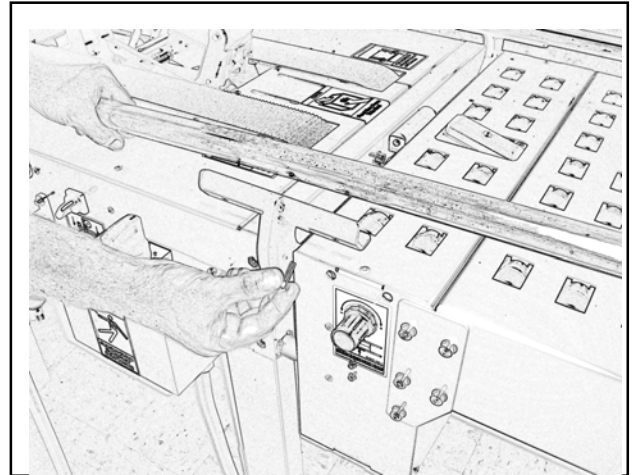

Figure 2-3—Centering Guides
2. Using a 5 mm hex wrench, attach the centering guides to the rails with four M6 x 20 screws (two in each guide) as shown in Figure 2-3.